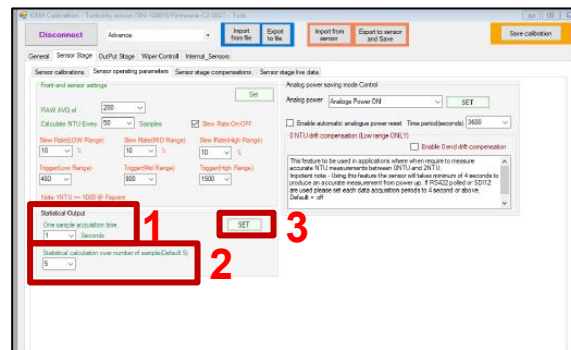

Figure 7.G: Polled mode address
1. The measurement period (Figure 7.G: #1)
2. Statistical data-length (Figure 7.G: #2)